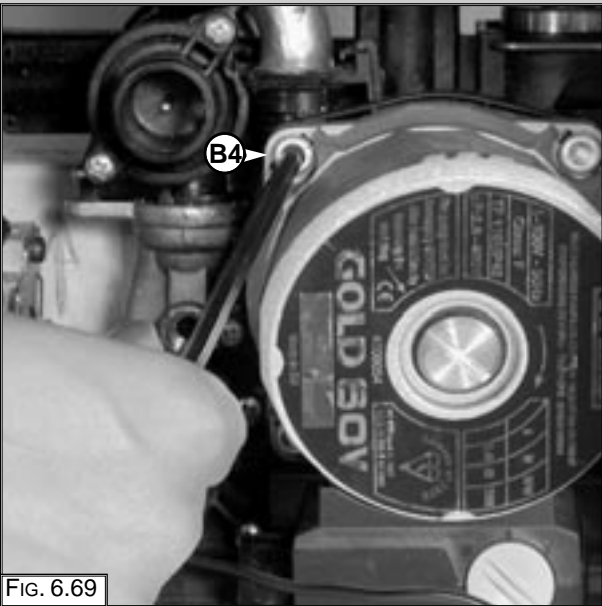

FIG. 6.69
2. Unscrew the four screws "B4" (Fig. 6.69);